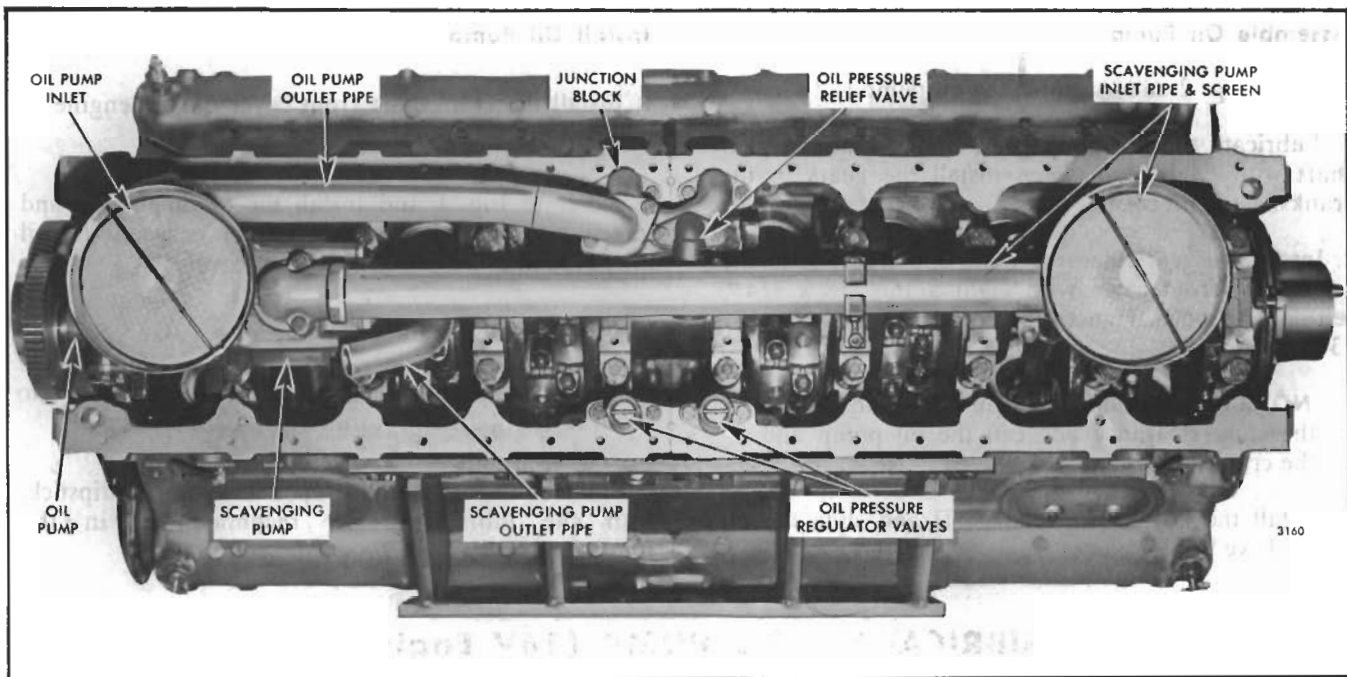

Fig. 3 - Typical Lubricating Oil Pump Rear Mounted (16V Engines)
The gear-type scavenging lubricating oil pump is mounted on number nine and ten main bearing caps at the rear of the engine and is driven by a gear which is attached to the rear crankshaft gear (Fig. 3). On some engines, the oil pump is mounted at the front on the number one and two main bearings caps and is gear-driven by an oil pump drive gear bolted to the front of the crankshaft gear.
3. Remove the inlet and the outlet tube assemblies from the oil pump (Fig. 3) and the scavenging pump.